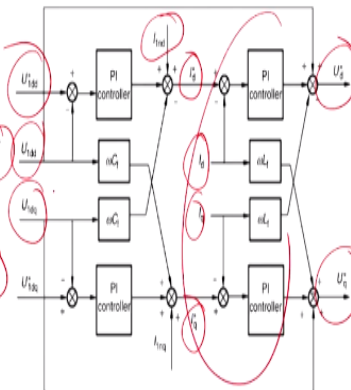

Fig.2: Schematic diagram of U/f control
- Fig.2 shows the schematic diagram of U/f control, where outer-loop voltage control and inner-loop current control are adopted and the reference voltages U_{idd}^* and U_{idq}^* and measured voltages U_{idd} and U_{idq} are specified.
So V/f control is a common when it operates in an islanding mode, so you have disconnected your connections from the grid. The figure 2 shows the schematic diagram of V/f control or U/f control where the outer loop controls the inner current loop are adopted with the reference signal U_{ild} and the U^*_{ld} are the measured voltage and this terms are the actual voltages. So this is the schematics for the U/f control or the V/f control for microgrids and generally it is preferred in islanding mode.